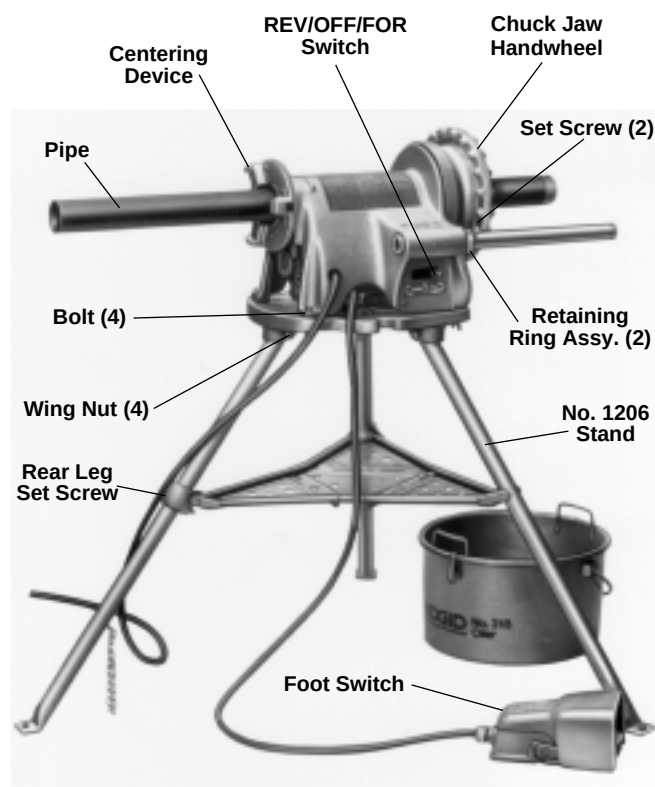

Figure 3 – 300 Power Drive Mounted on No. 1206 Stand with 418 Oiler
- Locate the set screw on the tray leg support on the rear leg (*Figure 3*).
2. Mount power drive on the stand using bolts and wing nuts (*Figure 3*).
1. Make sure Power Drive is unplugged and the directional switch is set to the OFF position (Figure 3).
4. Make sure the foot switch is present and attached to the Power Drive (Figure 3).
4. If the workpiece extends more than four (4) feet beyond the Power Drive, use one or more pipe stands to prevent tipping and the oscillation of the pipe.
5. If the workpiece extends beyond the Power Drive, set-up guards or barricades to create a minimum of three (3) feet of clearance around the Power Drive and workpiece. This "safety zone" prevents others from accidentally contacting the machine or workpiece and either causing the equipment to tip or becoming entangled in the rotating parts.
6. If necessary, fill the 418 Oiler with RIDGID Thread Cutting Oil. Position the oiler under the front of the Power Drive (*Figure 3*).